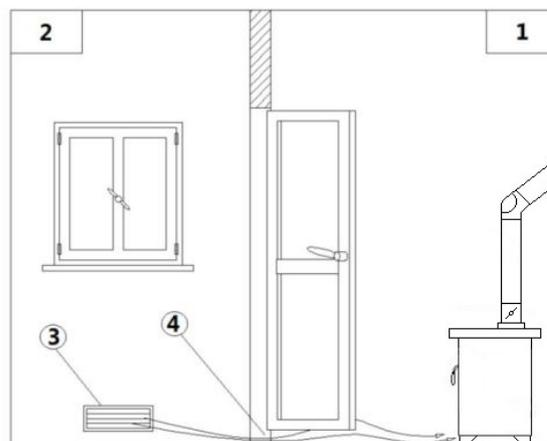
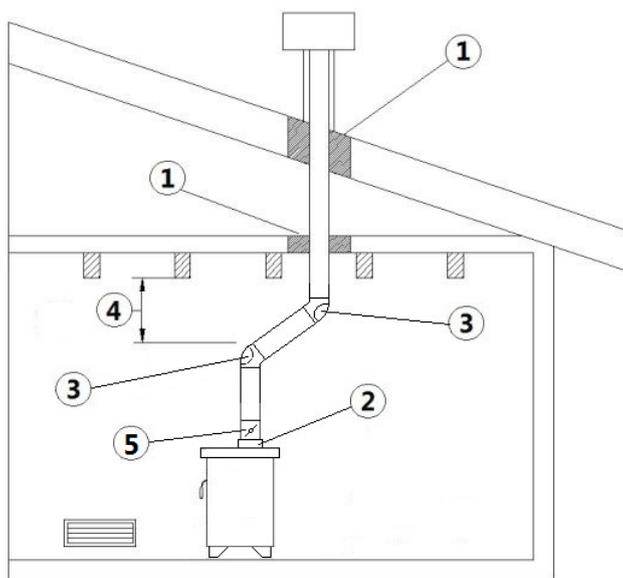

Fig. 6 - Indirect air inflow
Fig. 7 - Example 1
LEGEND	Fig. 6 page 8-Fig. 7 page 8
- The air inflow from outside to the inner occurs directly, through an opening on the external wall of the room (see **Fig. 6 page 8**); otherwise it occurs indirectly by air suction from rooms adjacent to the one to ventilate (see **Fig. 7 page 8**).